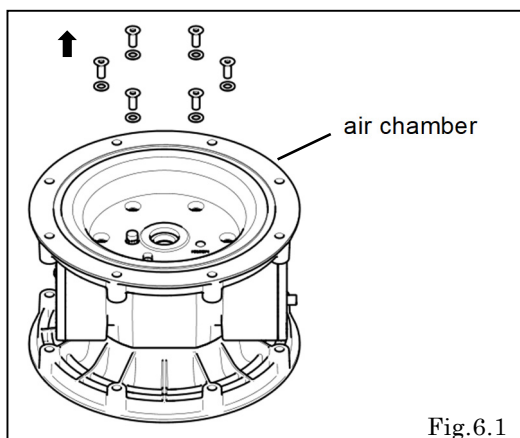

Fig.6.1
- Remove the 12 retainer bolts from the air chamber, and remove the air chamber. <Fig.6.1>